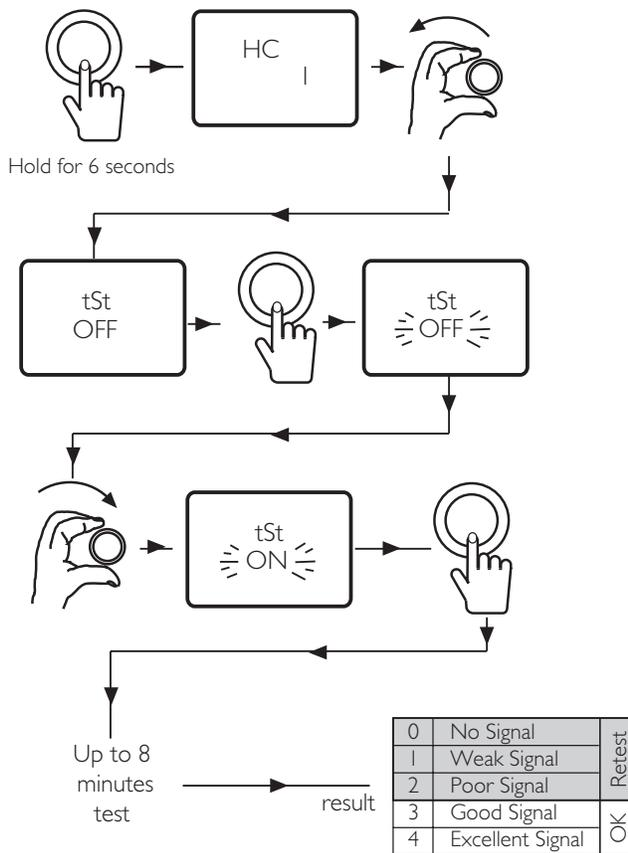

Fig. 15 Signal Strength Test
Before mounting the Programmer & Room Sensor to the wall, perform the following test to determine the signal strength. Fig. 15.
4. Press the Selector Button to start the signal strength test. The test may last for up to 8 minutes. During this time, numbers ranging from 0 to 4 are displayed. '0' indicates no signal available and '4' shows excellent signal strength Fig. 15. Baxi recommends locating the unit to give a signal strength of 3 or 4. If the signal is low, move the unit to a more suitable location and retest.